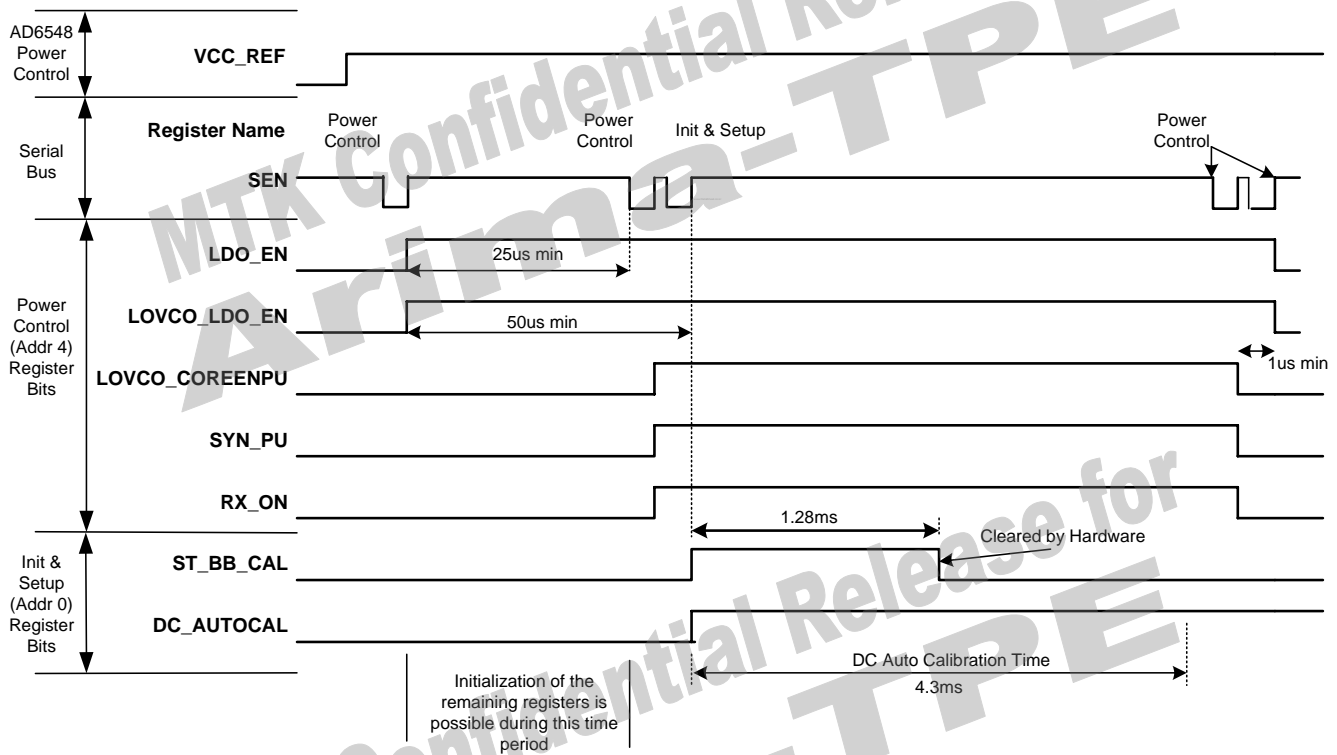

Figure 11 Initialization and auto calibration timing sequence
- 7) Once both calibrations are complete the receiver can be powered down; the calibration results are preserved as long as VDD is present. After calibration the PLL and gain settings will return to their pre calibration values automatically. Figure 11 shows the correct power down sequence using two Power Control writes; the first to turn off the RX\_ON and circuit blocks, and the second to disable the LDOs.
Figure 11 show the timing of the initialization and auto calibration sequence, as describe above.